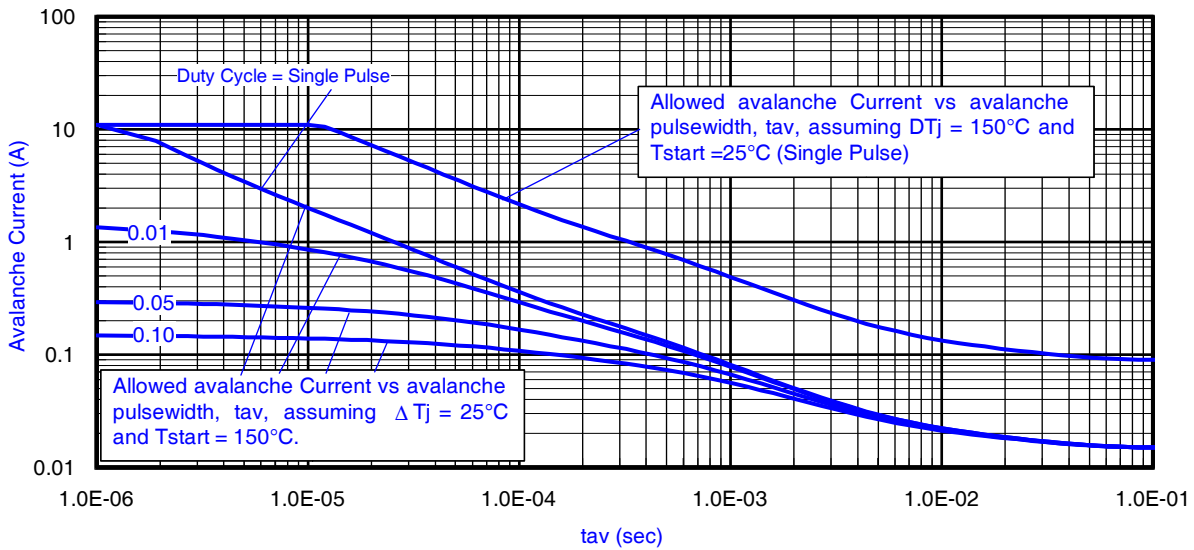

Fig 16. Typical Avalanche Current vs. Pulsewidth
Notes on Repetitive Avalanche Curves , Figures 16, 17:
7. ΔT = Allowable rise in junction temperature, not to exceed T_{jmax} (assumed as 25°C in Figure 16, 17).